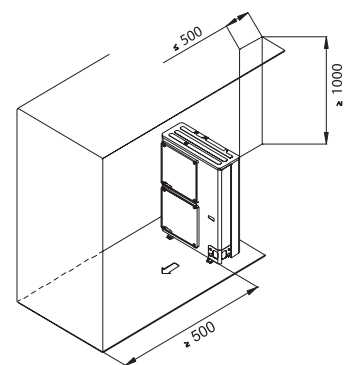

Figure 9
- a. Single unit installation (see Figure 9)